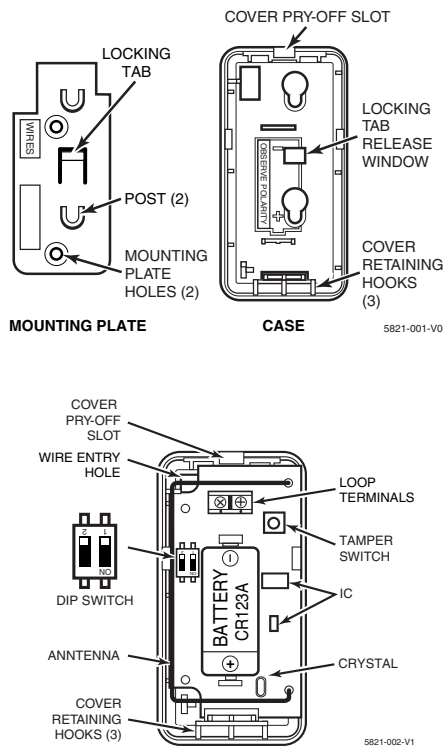

Figure 1
1. Remove the transmitter's top cover by inserting the flat blade of a small screwdriver into the pry-off slot at one end of the unit (see Figure 1 for location), and slightly twisting the blade until the cover disengages.
2. Install a 3-volt lithium battery as shown in Figure 1.
Once a good RF transmission path is confirmed, mount the detector as follows, referring to Figure 1.
2. Disengage the attached mounting plate from the case by inserting the blade of a small screwdriver into the locking tab release window (see Figure 1) and pressing it against the locking tab (also shown in Figure 1), while sliding the mounting plate upward along the case back until free.
4. For surface wiring entry, two thin "breakout" areas are provided in the case wall (see Figure 1).
6. With the battery still not inserted, connect the wires to the unit's sensor terminals (see Figure 1).